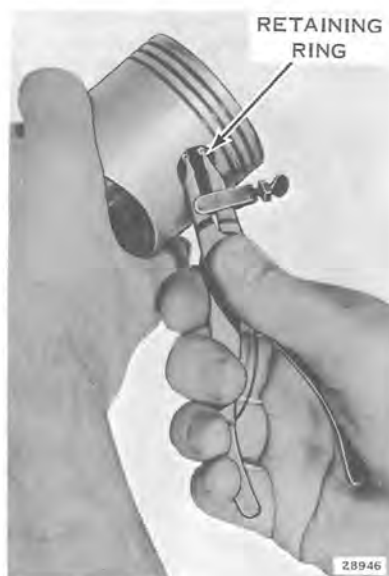
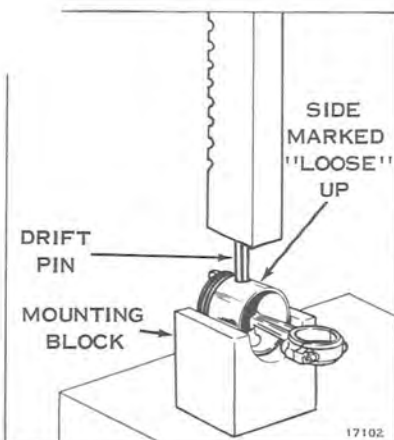

Figure 9-8
Figure 9-9
- o. If necessary to remove connecting rods from pistons, remove wrist pin retaining rings, using Truarc No. 1 pliers (Service Tool #303857) (see Figure 9-8). Press out wrist pin to free piston from connecting rod. See Figure 9-9. Piston wrist pin hole marked "Loose" should be up when pressing out wrist pin. This will prevent damage to piston.